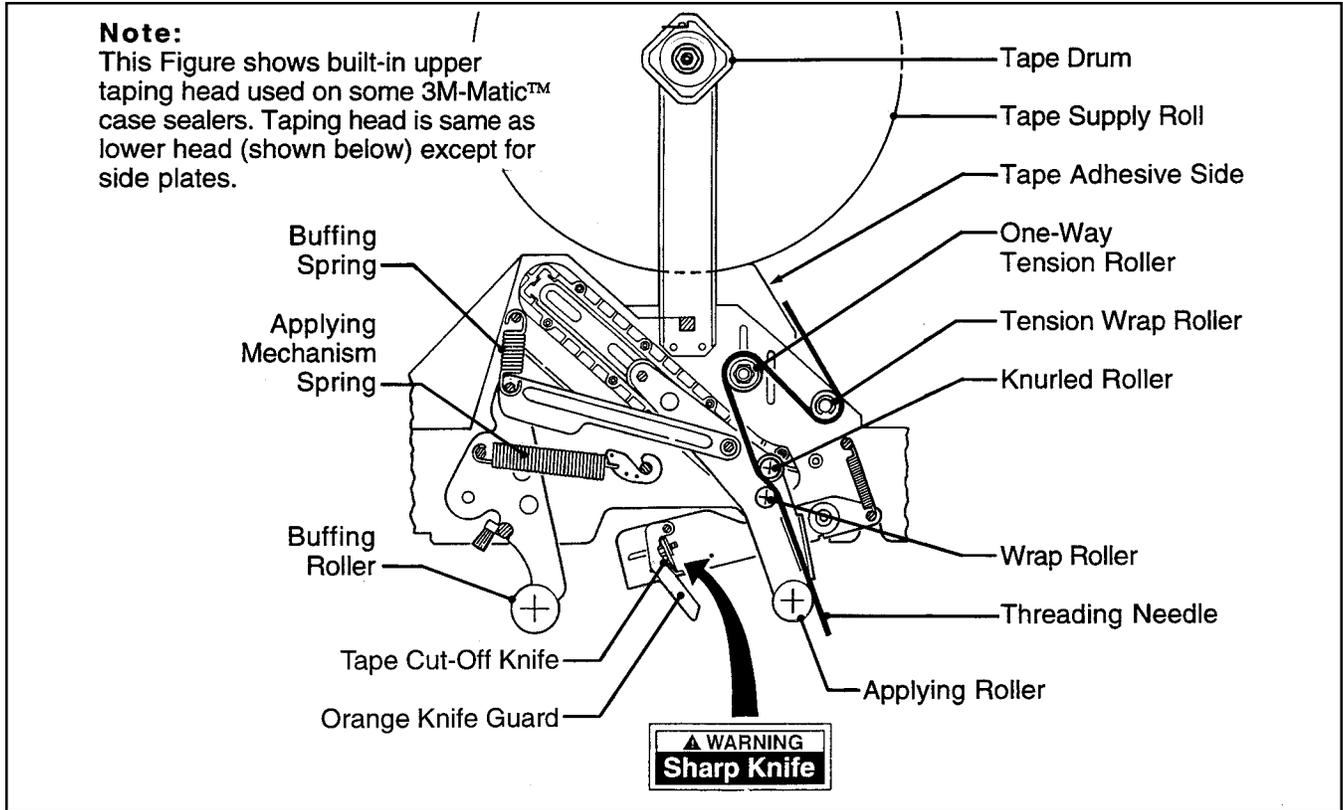

Figure 3-1 – Taping Head Components/Threading Diagram – Upper Head (Left Side View)
Before working with the taping head or loading/threading tape, refer to Figures 3-1 and 3-2 to identify the knife location. **Keep hands out of these areas except as necessary to service the taping head or to load/thread tape.**
**WARNING** – Taping head utilizes an extremely sharp tape cut-off knife. The knife is located under the orange knife guard which has the "Warning – Sharp Knife" label. Before working with the taping head or loading tape, refer to Figures 3-1 and 3-2 on page 6 and identify the knife location. Keep hands out of these areas except as necessary to service the taping head.
3. The taping head uses an extremely sharp tape cut-off knife. Before working with the taping head or attempting to load/thread tape, refer to Figures 3-1 and 3-2 and identify the knife location. Keep hands out of these areas except as necessary to service the taping head.
The applying mechanism spring, shown in Figures 3-1, 3-2 and 5-1 controls applying and buffering roller pressure on the box and returns the mechanism to the reset position. The spring pressure is pre-set at the factory, as shown in Figure 5-1A for normal operation.
If buffering roller force cannot be reduced enough by adjusting the applying mechanism spring, the buffering extension spring shown in Figure 3-1, 3-2 and 5-2 can be removed to reduce pressure. In this case, the applying mechanism spring will have to be re-adjusted to provide sufficient buffering roller pressure to adequately buff the tape seal.